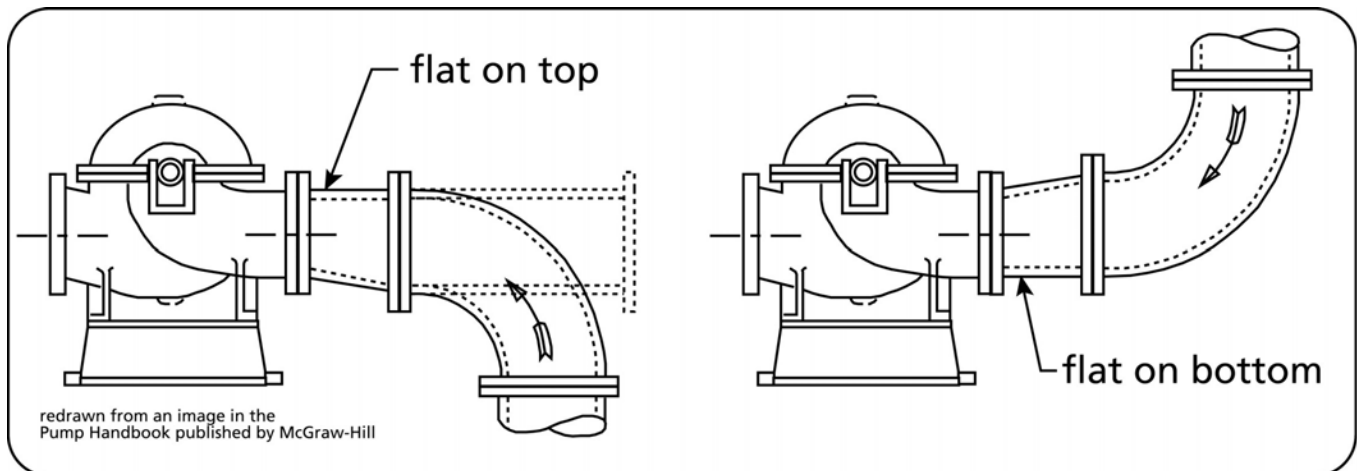

Figure 1 Eccentric reducers at the pump suction (source: the Pump handbook published by McGraw-Hill)
2. Always use an eccentric reducer at the pump suction when a pipe size transition is required. Put the flat on top when the fluid is coming from below or straight (see Figure 1) and the flat on the bottom when the fluid is coming from the top. This will avoid an air pocket at the pump suction and allow air to be evacuated.